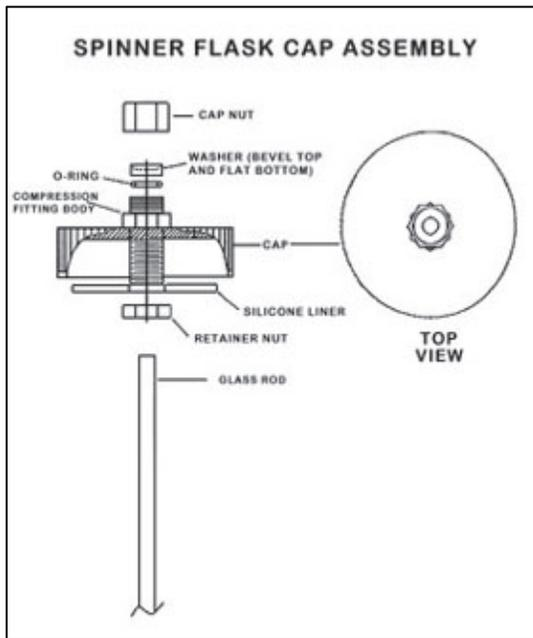

Figure 1: Spinner Flask Cap Assembly
9.1. Figure 1: Spinner Flask Cap Assembly (<http://www.bellcoglass.com/>)